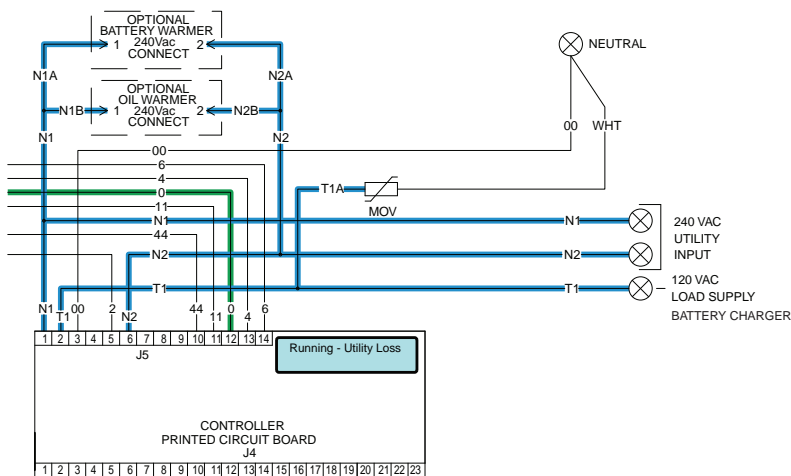

Figure 92.
- Utility voltage is available to the controller via Wire N1 and N2 (see to Figure 92).